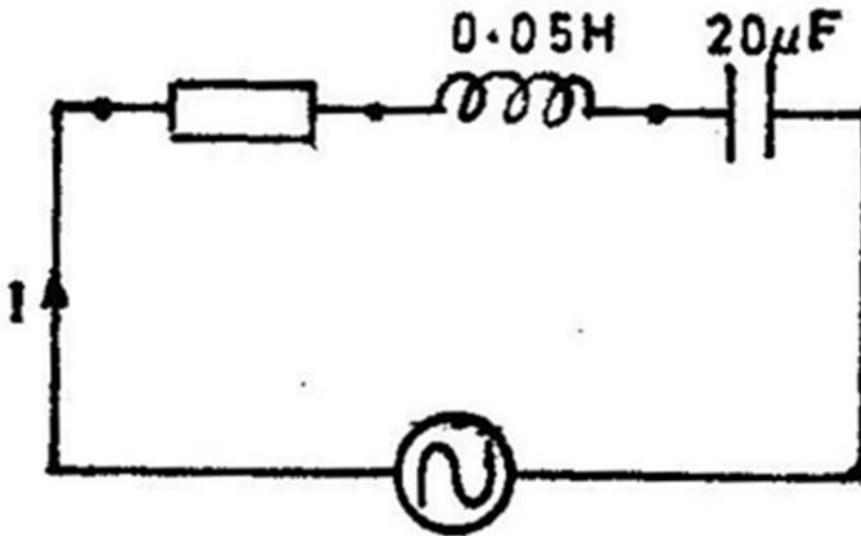

Figure 3
- (b) Figure 3 is a series resonance circuit.